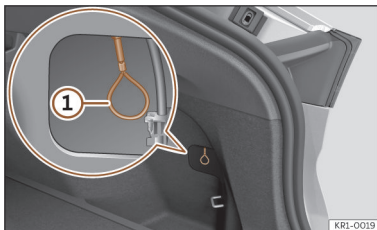

Fig. 62 Behind the cover: emergency unlock of the charging connector.
- Pull the emergency manual release loop >>> **Fig. 62** ①. The charging connector can be removed >>> ⚠.